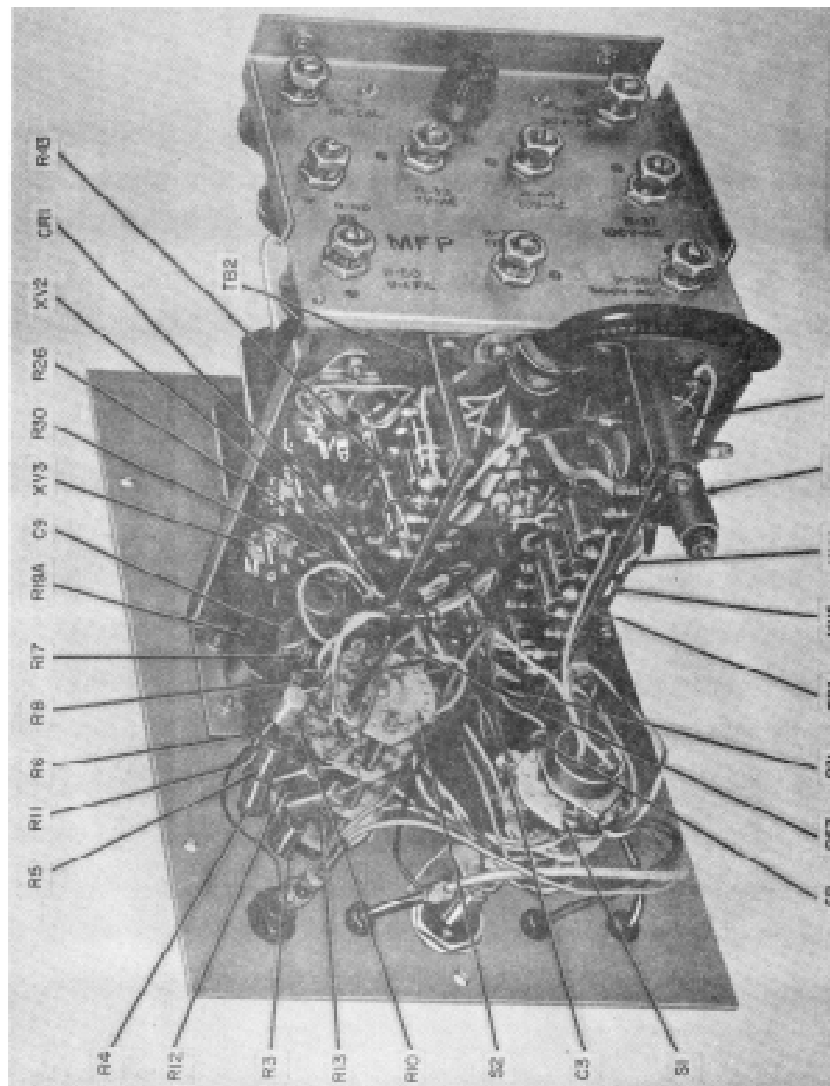

Figure 6-5. Multimeter ME-26A/U chassis, right side view.
b. Resistor R28 or R61 (or R51A in the ME-26A/U) open.	b. Replace resistor (fig 6-5).
c. Capacitor C4 shorted.	c. Replace capacitor C4 (fig. 6-5 or 6-9).
c. Capacitor C5 or C6 defective.	c. Replace defective capacitor (fig. 6-5 or 6-9).